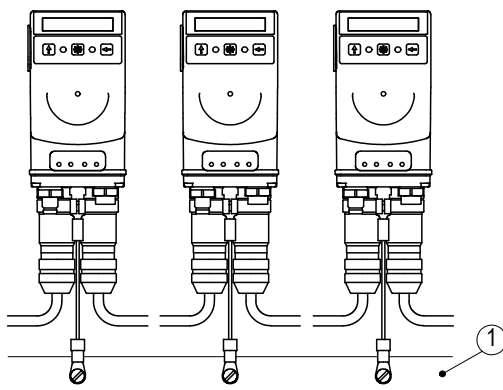

Fig. 3: Ground bar
For protection against interference, the screens of the signal lines and the power line must be connected on both sides. Potential differences cause inadmissible currents on the screen. Install the ground connection ⑤ onto the protective ground conductor potential between the plug connectors (see Fig. 2). Use 6.3 mm flat connectors or cable lug with short strands 2.5 ... 4 mm² (not in the scope of delivery). For multiple position indicators we recommend connecting the grounding to a ground bar ① (see Fig. 3).